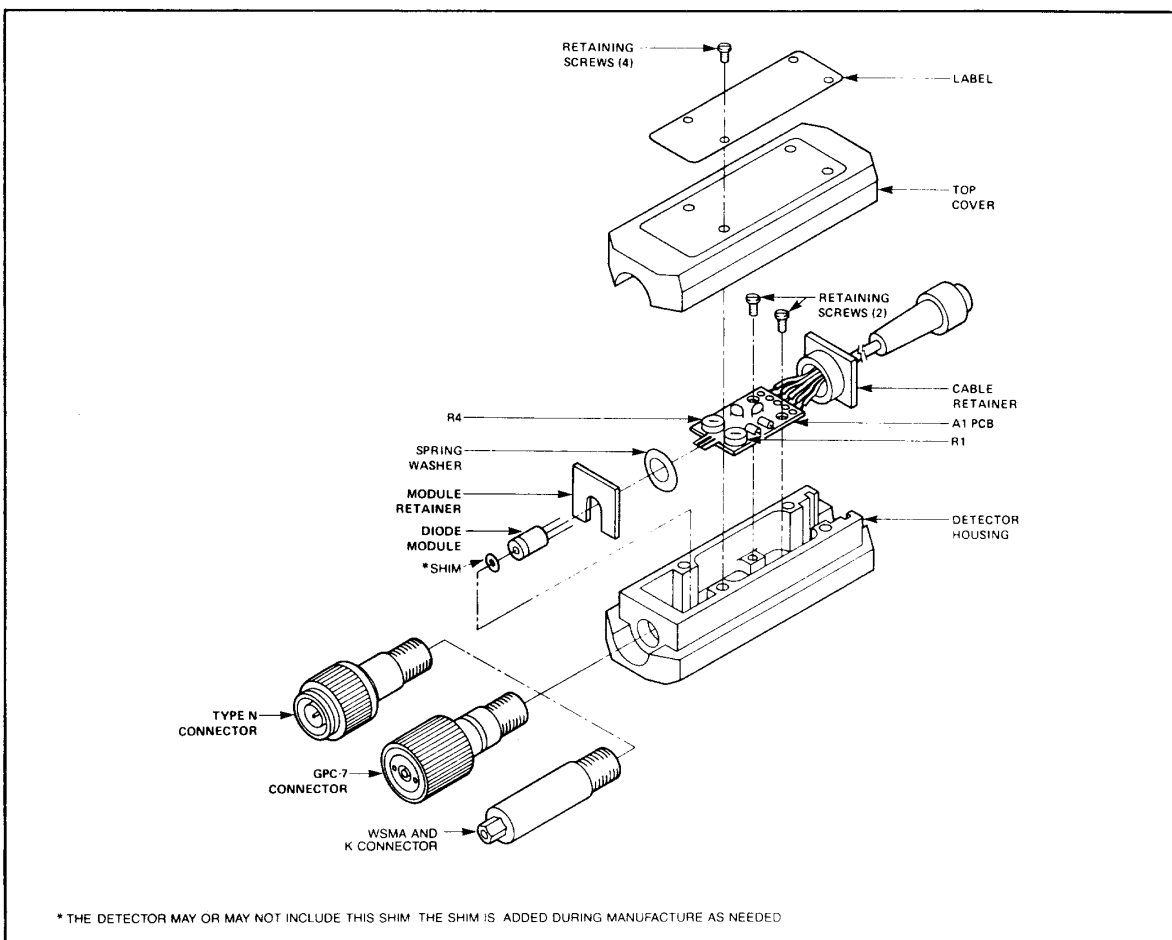

Figure 7-22. Model 560-7 Series RF Detector, Exploded View
The 560-7 series RF detectors are equipped with a field-replaceable diode module that contains - in addition to the detector diode - a thermistor, a resistor, and two capacitors. An exploded view of this detector is shown in Figure 7-22. Replacement of
- n. Orient replacement module so that center lead is on top; slide module into its housing at rear of connector (Figure 7-22).